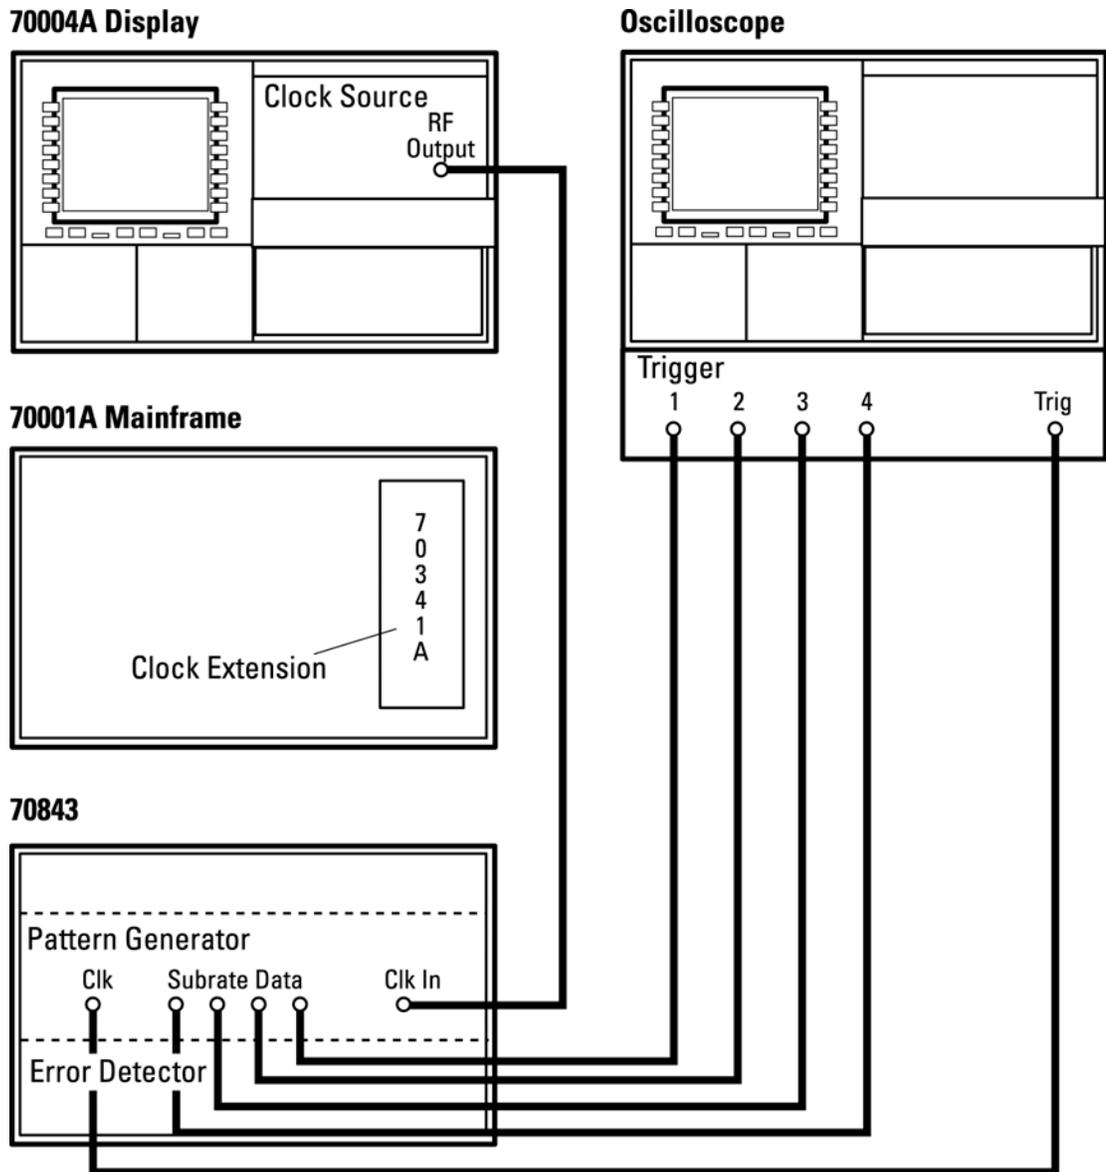

Figure 11-10
1. Re-connect the equipment as shown in Figure 11-10.